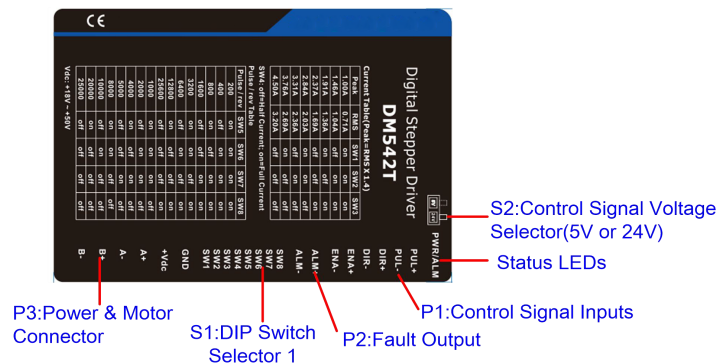

Figure 2 Connectors, DIP switches, and LED locations
PUL+	Pulse and Direction Connection: (1) Optically isolated, high level 4.5-5V or 24V, low voltage 0-0.5V (2) Maximum 200 KHz input frequency (3) The width of PUL signal is at least 2.5µs, duty cycle is recommended 50% (4) DIR signal requires advance PUL signal minimum 5 µs in single pulse mode (5) The factory setting of control signal voltage is 24V, must need to set S2 (figure 2) if it is 5V
The DM542T(V4.0) can accept differential or single-ended control signals (pulse, direction, and enable) in open-collector or PNP connection through the P1 connector (figure 2). It is recommend to add an EMI line filter between the power supply and the drive to increase noise immunity for the drive in interference environments.
- (1) ENA signal is no-connected as default;
- (2) Control signal amplitude is 24 V as default. If it is 12 V, please set the S2 (Figure 2) selector switch to 5 V first, then connect 1KΩ resistor; If it is 5V, please set the S2 to 5V.
The second 1-bit selector is located on the top (S2 in figure 2), used to configure the voltage of control signals. For the safety of optically coupled, the factory setting is 24V, which no need to connect 2K resistors like the old drives, making it easier to use. When the voltage of the control signal is 5V, the S2 must be set to 5V, otherwise, the motor won't work.